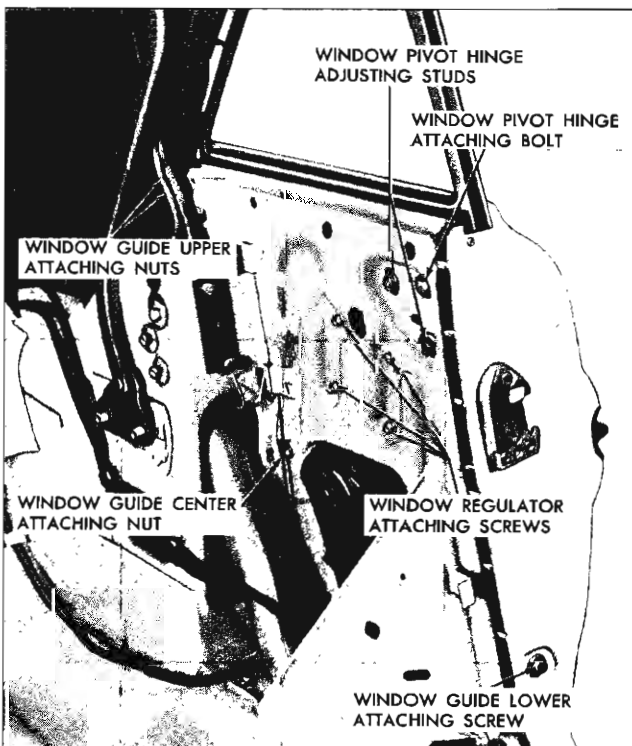

Fig. 4-8 Rear Quarter Hardware - 67 Style
3. Remove window pivot bolt (Fig. 4-8). Disengage window male hinge from female hinge plate; then raise window to disengage window lower sash channel cam from roller on window regulator lift arm and remove window.
screws (Fig. 4-8); then adjust stop to desired position and tighten guide attaching screws.
a. Up or down or fore or aft window adjustment: Loosen pivot bolt and both adjusting stud nuts (Fig. 4-8). Position window as required; then tighten pivot bolt and stud nuts.
b. In or out adjustment of top of window: Loosen lower adjusting stud nuts and slightly loosen rear stud nut. Adjust lower stud in or out, as required; then tighten both stud nuts (Fig. 4-8).
c. In or out adjustment of rear of window: Loosen pivot hinge rear adjusting stud nut and lower adjusting stud nut (slightly). Loosen window guide upper attaching nuts and center stud nut (Fig. 4-8). Adjust rear adjusting stud in or out, as required; then tighten both stud nuts. Adjust window guide for proper alignment with window and tighten upper attaching nuts and center stud nut.
6. Remove window regulator attaching screws (Fig. 4-8). Disengage roller on regulator from sash channel cam and remove regulator through large access hole.
3. Remove window guide upper and center attaching nuts and lower attaching screw (Fig. 4-8). Disengage window guide and remove guide through large access hole.